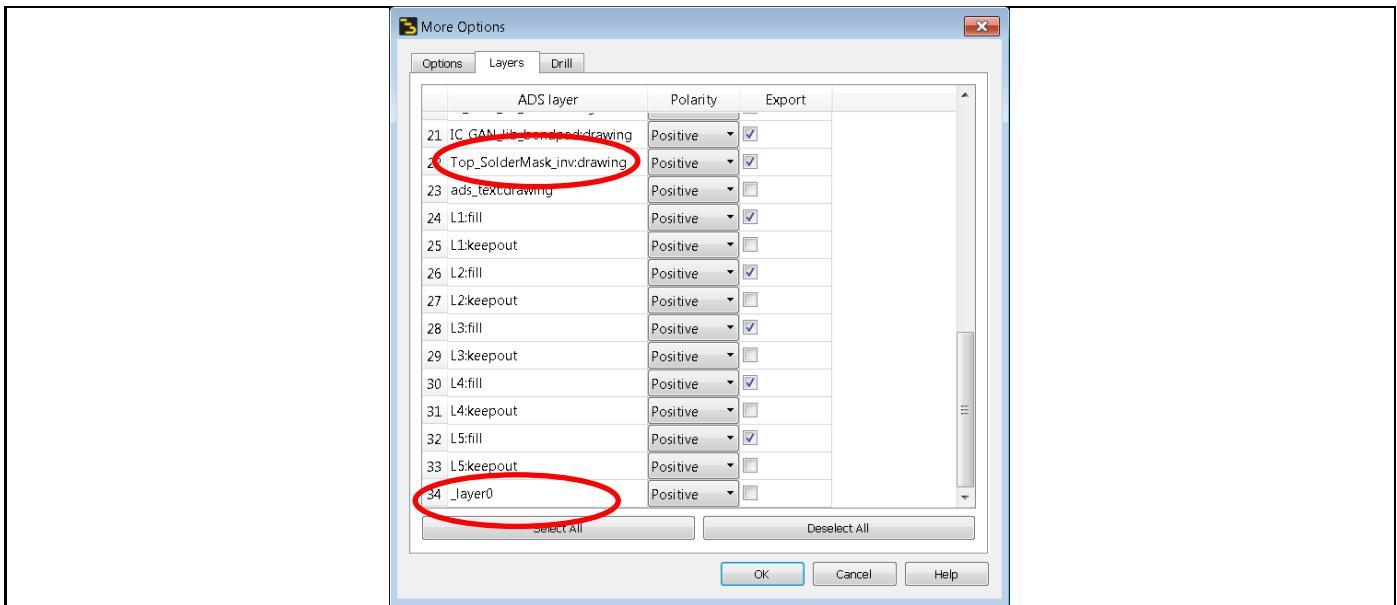
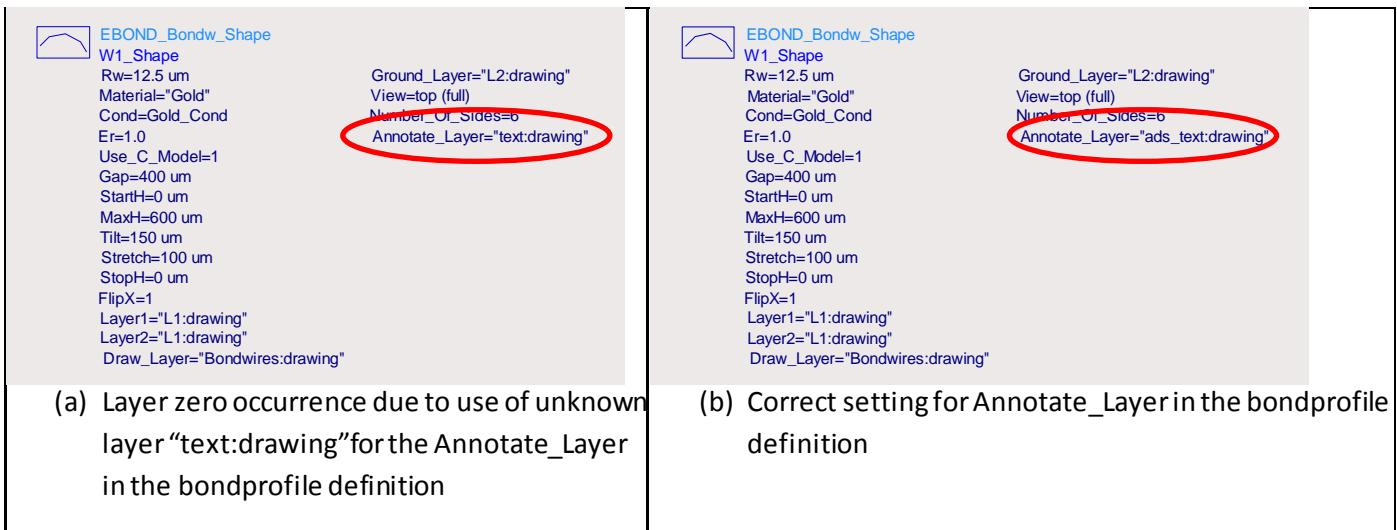

Figure 44 Example of undesired use of layer Top_Soldermask_inv and _layer0
Figure 45 Example that can cause the occurrence of _layer0
- No objects/shapes on any non-design layer are allowed. This can be checked during the export, as can be seen in Figure 44. Common errors that occurred were the use of the layer Top_SolderMask_inv, which is supposed to be only a derived layer for EM simulations (but no design layer), or the occurrence of _layer0, which indicates that objects (that could be a desired part of the design) are placed on an unknown layer. Figure 45(a) depicts an example that can cause the occurrence of _layer0, whereas Figure 45(b) shows the correct settings for this example. These occurrences need to be resolved prior to releasing the design.